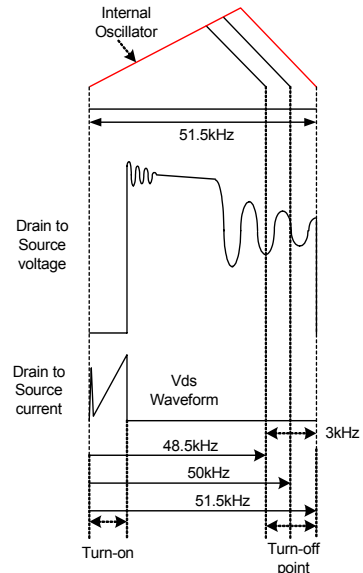

Figure 11. Frequency Modulation Waveform
7. Frequency Modulation : EMI reduction can be accomplished by modulating the switching frequency of a switched power supply. Frequency modulation can reduce EMI by spreading the energy over a wider frequency range than the band width measured by the EMI test equipment. The amount of EMI reduction is directly related to the depth of the reference frequency. As can be seen in Figure 11, the frequency changes from 48.5KHz to 51.5KHz in 4mS for the FSDL0165RN. Frequency modulation allows the use of a cost effective inductor instead of an AC input mode choke to satisfy the requirements of world wide EMI limits.